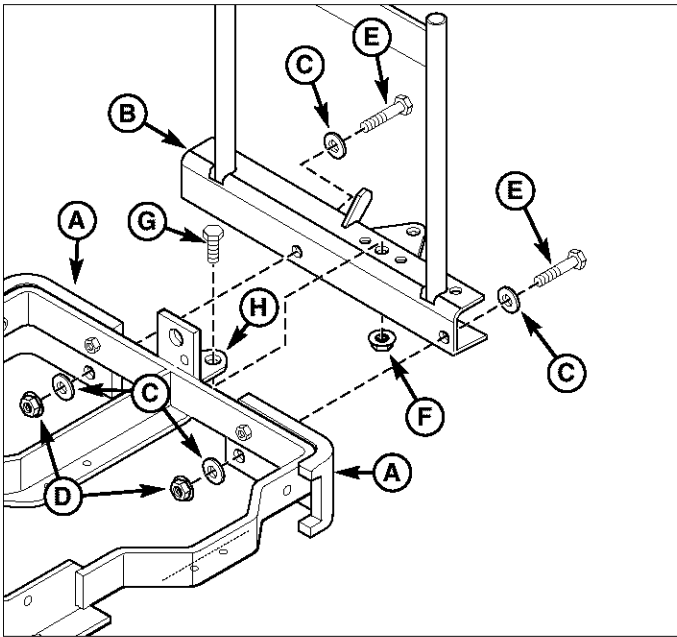

Figure 4. Install Hitch Assembly
1. Attach hitch assembly (B, Figure 4) to frame & rear weights (A). Secure with 3/8-16 x 2 cap screws (E), washers (C) and 3/8-16 locknuts (D) as shown. Finger tighten at this time.
2. Install 1/2-13 x 1-1/4 cap screw (G) through drawbar (H) and tighten.